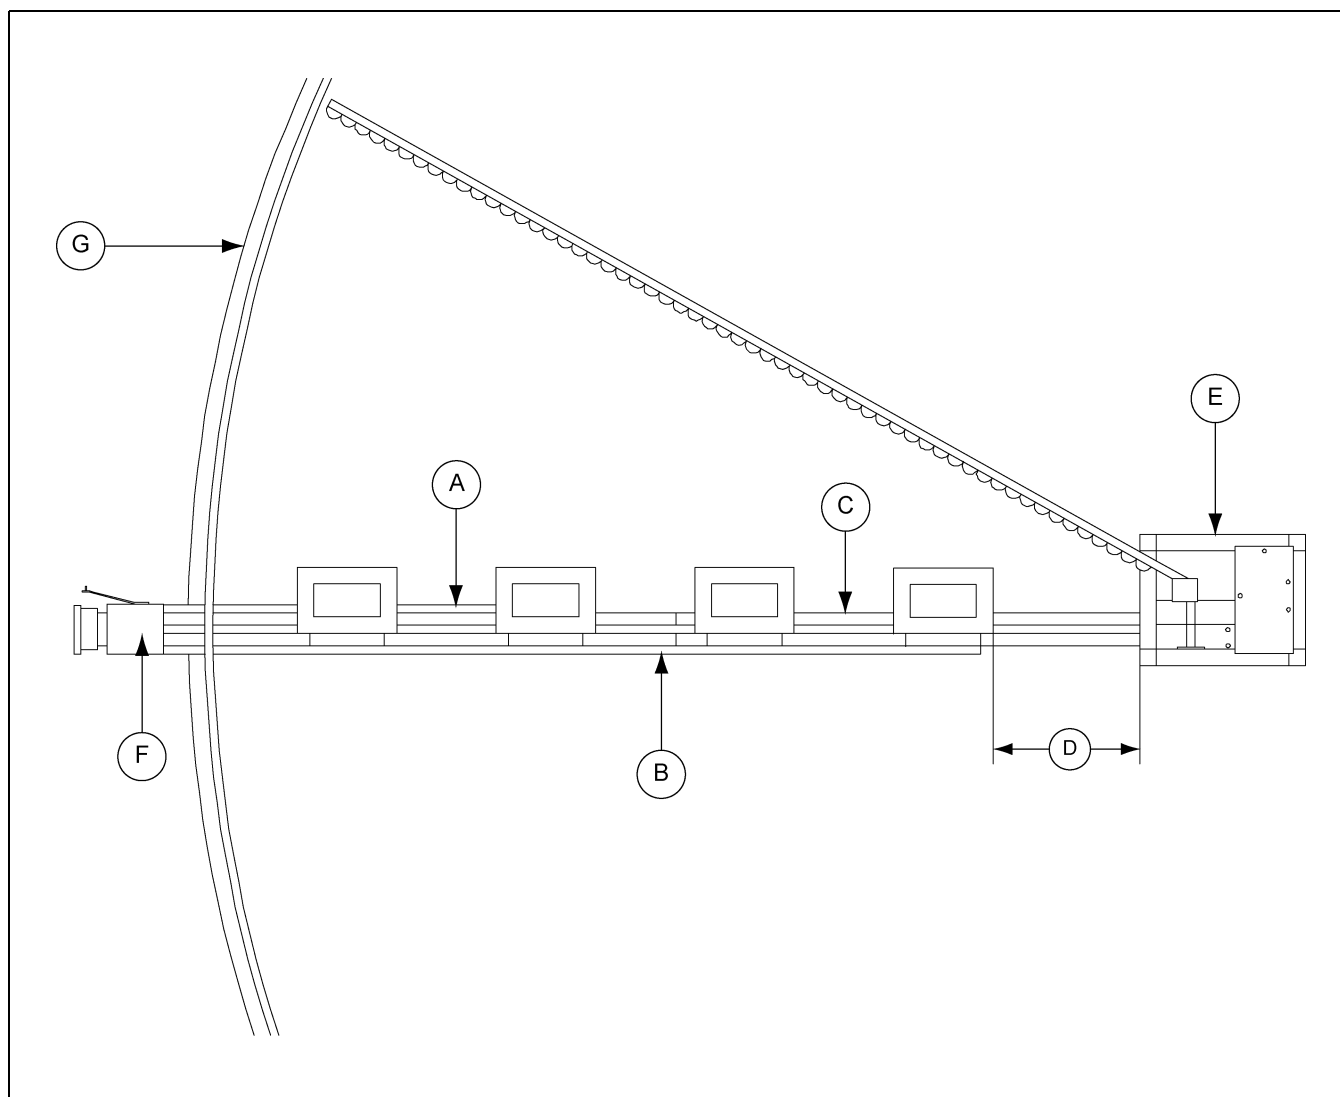

Figure 3B
1. Use the following illustration (Figure 3B) and the chart on Page 14 to determine the necessary pipe lengths.
The labels "A", "B", "C" and "D" correlate with the same labels in Figure 3B on Page 13.